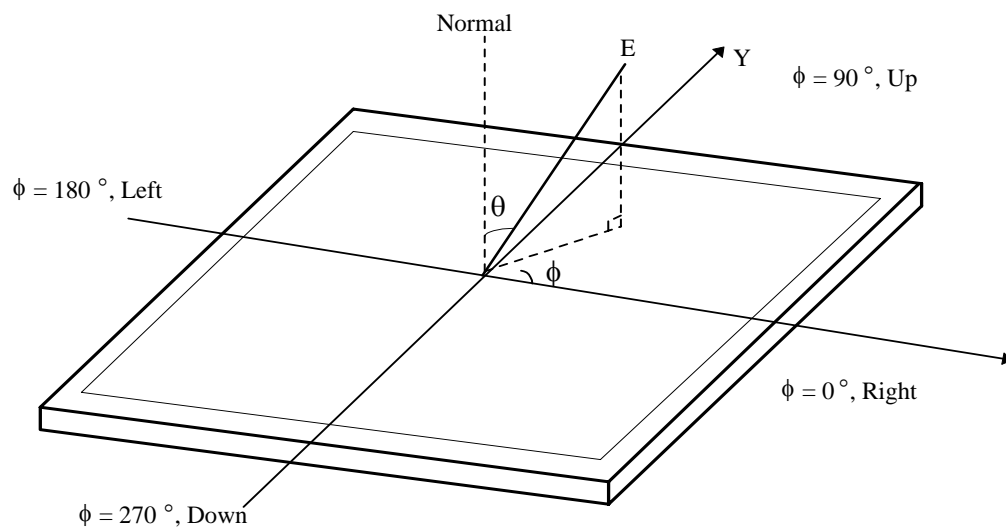

FIG. 5 Viewing Angle
6. Viewing angle is the angle at which the contrast ratio is greater than 10. The angles are determined for the horizontal or x axis and the vertical or y axis with respect to the z axis which is normal to the LCD module surface. For more information, see the FIG. 5.